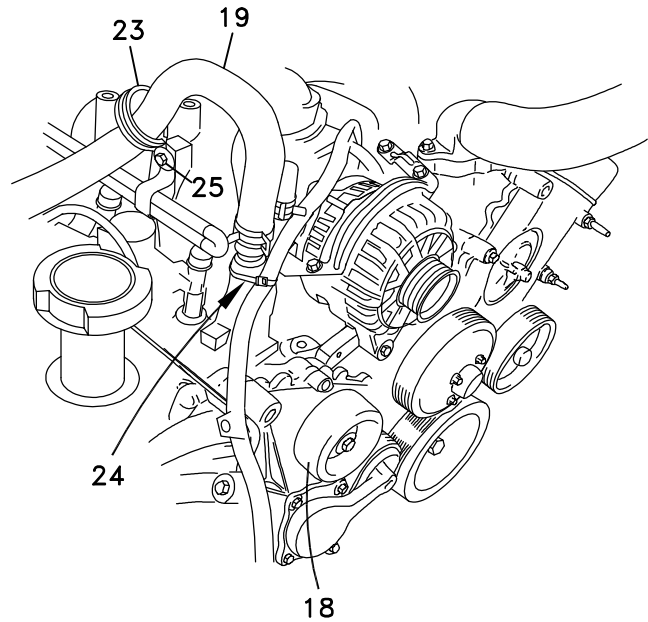

FIG. 4A
15. Unclamp the heater hose (19) where it attaches to the engine and rotate the hose so it points to the rear of the truck. Clamp the heater hose back to the manifold. Remove the OEM bolt (25) from the fuel rail. Place the Adel clamp (23) around the hose and attach it to the fuel rail with the OEM bolt you just removed.
16. Pull the alternator wiring as far toward the passenger side of the engine as possible and attach to the heater hose outlet on the manifold casting with the plastic cable tie (24). Make sure the alternator wiring is not pinched between the engine and the pump bracket when it is installed.
17. Attach the pump mount bracket (1) to the engine with the OEM stud bolt (9) at location A and the M10 x 60 bolt at location B. Torque these bolts to 19-25 ft-lb.
18. **On the pickup only:** Cut the tab off of the wire (22). Replace on the stud bolt (9) flipping it over from the OEM position so it protrudes away from the pump bracket. Point it at about a 45° angle toward the passenger side so it is not in the belt line. See Fig. 4A.
19. Reinstall OEM idler (18) in its original location. Torque to 19-25 ft-lb.
20. Install the serpentine pump drive belt (21) per diagram. The clutch pulley is 8-groove while the rest of the system is 6-groove. Place the belt on the rear six grooves of the clutch pulley leaving the front two grooves open.